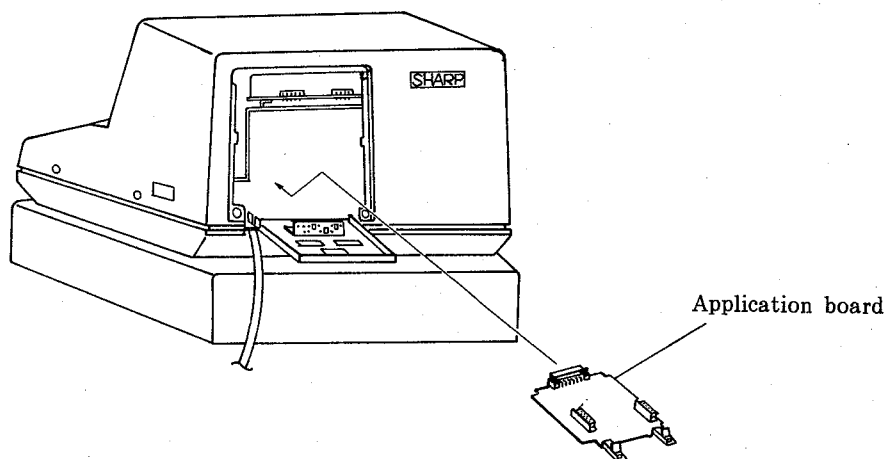
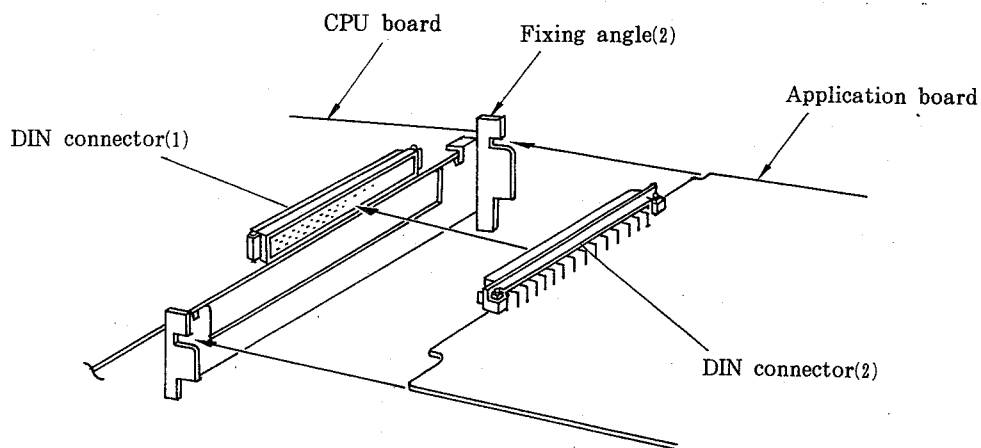

Fig.8
Fig.9
- (7) Connect the application board (and the additional memory board) to the CPU board.
- a) Insert the application board into the body (Fig.8.) and fit it to the fixing angle (2) (2 positions). (See Fig.9.)